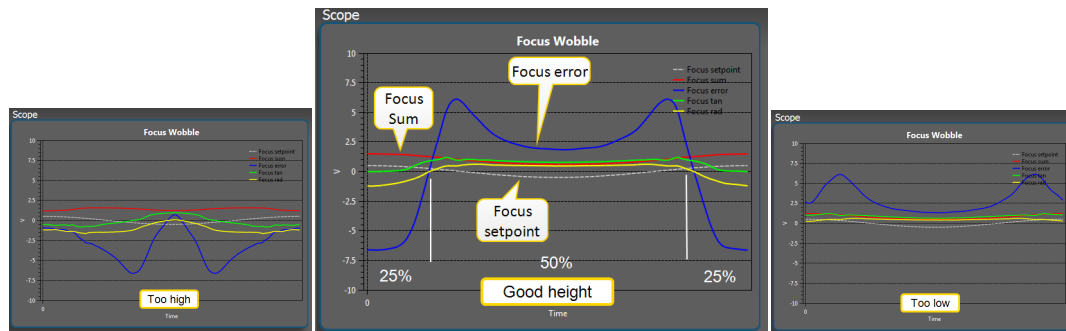

Figure 3-19 Test results: too high (l), good height (m), too low (r)
13. Carefully lower the writing module while watching the **Scope** window (**Figure 3-19 on the next page**).
23. Click the **Step** buttons to move the writing module further down while watching the gray dotted line (the focus mechanical set-point) and the blue line (the focus error) in the **Scope** window, see **Figure 3-19 on the next page**